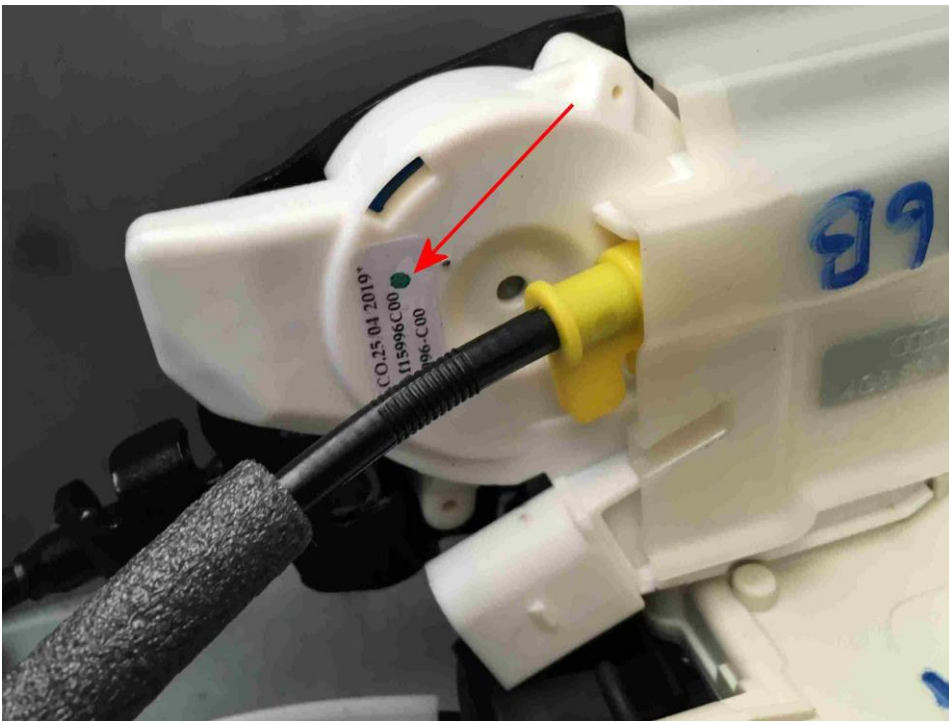

Figure 2
- 4) Open a Non technical/For information only DISS query - Attach a photo of the door latch label as shown in Figure 2